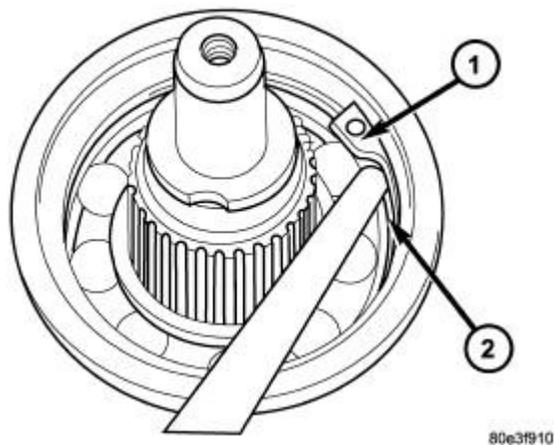

Fig. 101: Rear Output Shaft Retaining Ring
2. Install the retaining ring (1). Refer to **Fig. 101**. Ensure that the retaining ring is seated correctly in the groove.